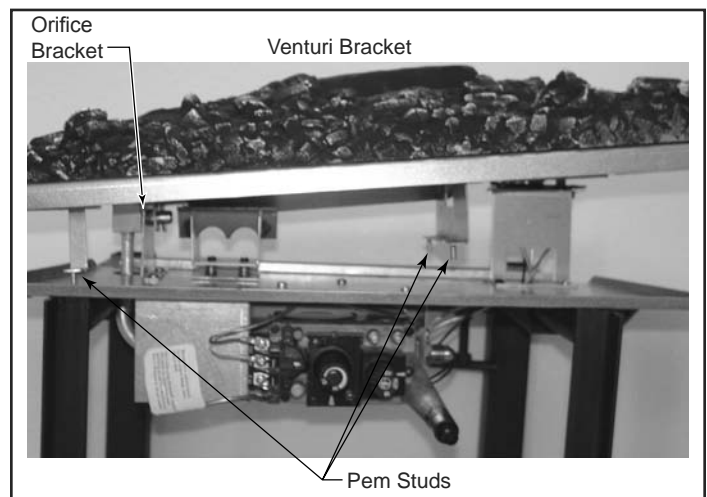

Figure 82 - Tilt ember bed slightly to correctly place on venturi and air shutter.
- Carefully remove ember bed by tilting the right side up and lifting out toward the right side of the unit. (Figure 82)
Thread and tighten 3/8" nuts back onto pem studs on underneath side of control panel, reversing Step 1 shown in Figure 82.